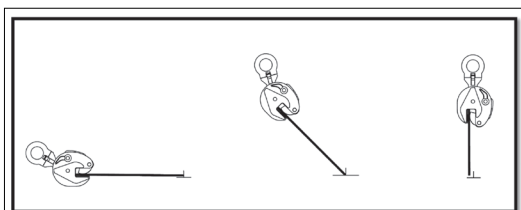
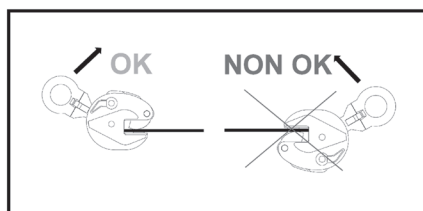

Fig. 7
Fig. 8
The pincer joint allows a sheet to be rotated and/or tilted without coming off the ground and without going over the vertical (fig. 7); again, the load must be gripped correctly and securely (fig. 8).
**ATTENTION:** with reference to the minimum working load, consider that in the 180° rotation/tilting operation of a plate, as long as one end of the load is on the ground, while the load is rotated from horizontal to vertical, the accessory will only bear a part of the load (fig.7)